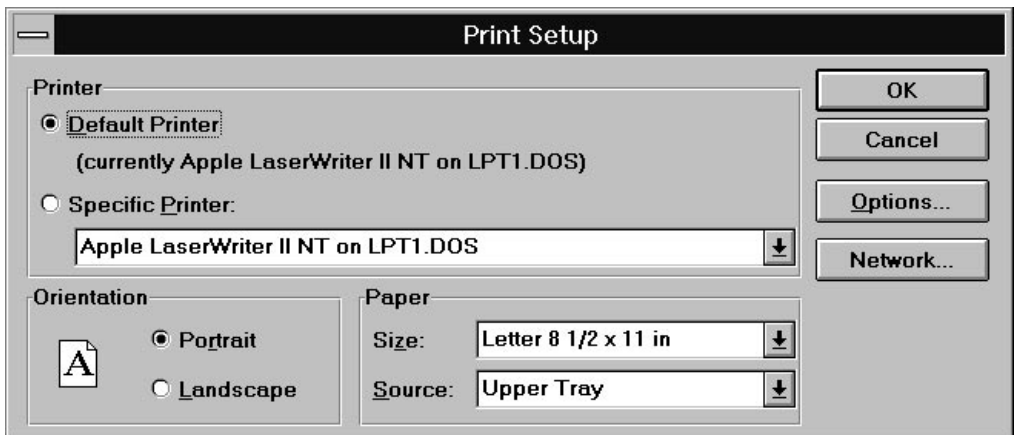

Figure 5-15 Print Setup Dialog Box
- Setup activates the Print Setup dialog box, shown in Figure 5-15.
The Printer Setup command sends any report to a printer other than the default printer for your site and allows you to change printer options. It activates the Print Setup dialog box, shown in Figure 5-15.